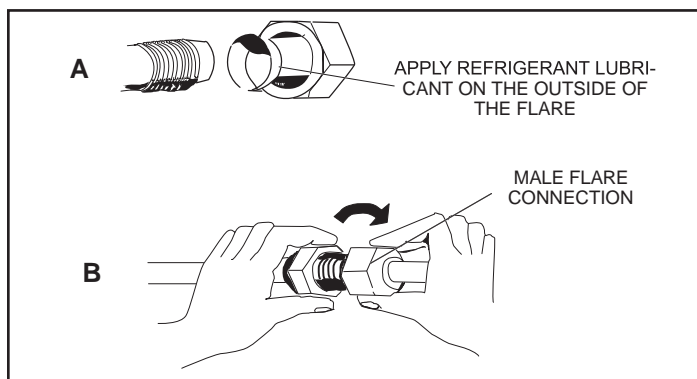

Figure 4. Making Connections (Male to Female Connection)
- Apply recommended R-410A refrigerant lubricant to the outside of the flared refrigerant lines (figure 4-A).
- Align the threaded connections with the flared refrigerant lines. Tighten the flare nuts lightly at first to obtain a smooth match (figure 4-B).